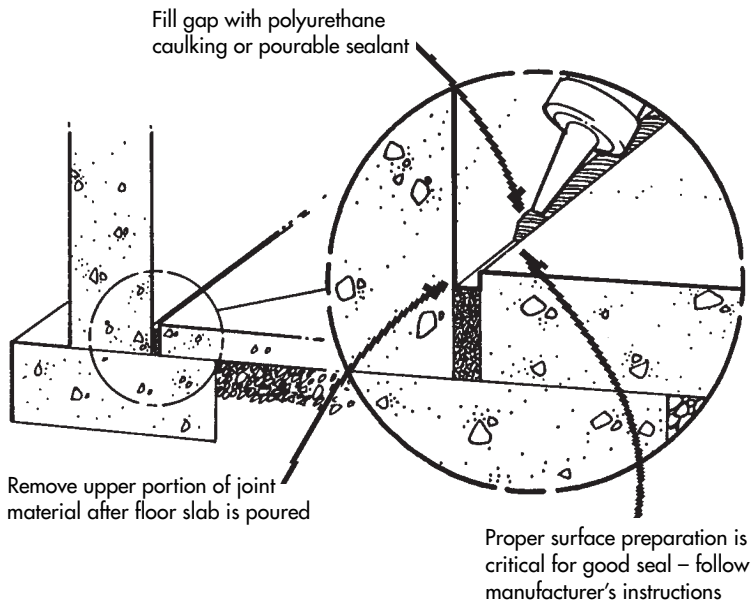

Figure 16: Seal foundation wall and basement floor joint in new construction
- Seal the basement floor/ foundation wall crack. There are several options for sealing this potential radon entry point (see **figure 13, page 19** and **figure 16, page 24**). Note that proper preparation of surfaces to be caulked is critical to obtain an effective, long-lasting seal.